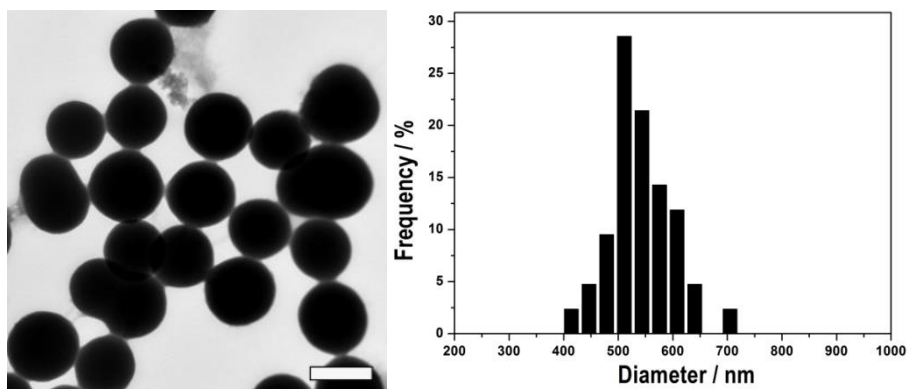

Fig. S2 TEM image and size-distribution diagram of Eu-CPs prepared under 15 mM precursor concentration at 160 °C for 10 min. Scale bar: 500 nm.
2. **Fig. S2** TEM image and size-distribution diagram of Eu-CPs prepared in 10 min.